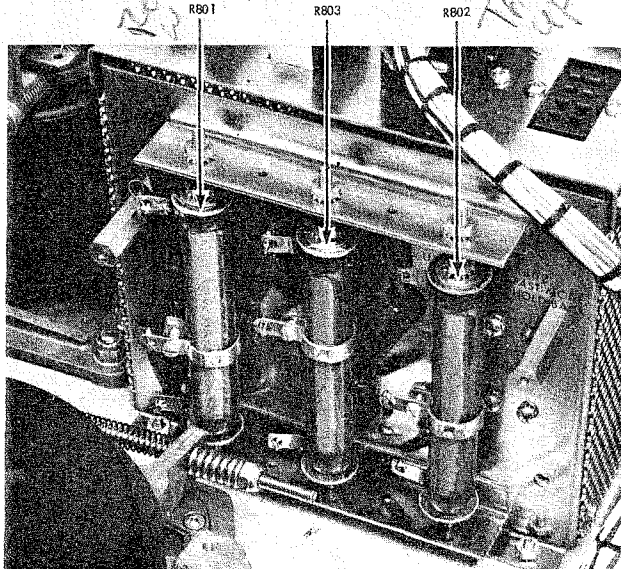

Fig. 4-1 Tension Adjusting Resistors
Step 6: If the indication in Step 5 is incorrect, adjust the slider on HOLDBACK resistor R801 (see Fig. 4-1) to obtain the quoted torque.
Step 7: Repeat Steps 1 through 6 at the takeup turntable. Note that the cord should be wrapped clockwise on the reel hub, and that adjustment is made at the slider of TAKEUP resistor R803 (see Fig. 4-1). Torque indications should be the same as at the supply turntable.
Step 8: With the same test setup as in Step 7, place the mode selector switch in the REWIND position and press the START pushbutton. Hold the scale stationary, tap lightly on the reel, and note the scale indication. It should be between 1/2 and 1-1/2 ounces. Any adjustment required is made at FAST MODE HOLDBACK resistor R802 (see Fig. 4-1).